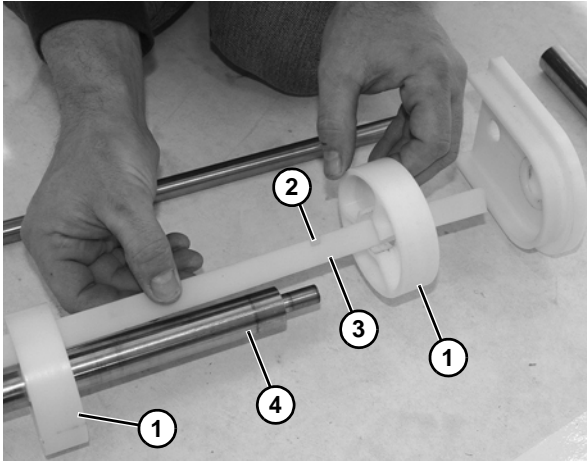

Figure 67
1. Place the pucks (Figure 67, item 1) into the slots (Figure 67, item 2) of alignment bar (Figure 67, item 3), and install onto the idler shaft (Figure 67, item 4).